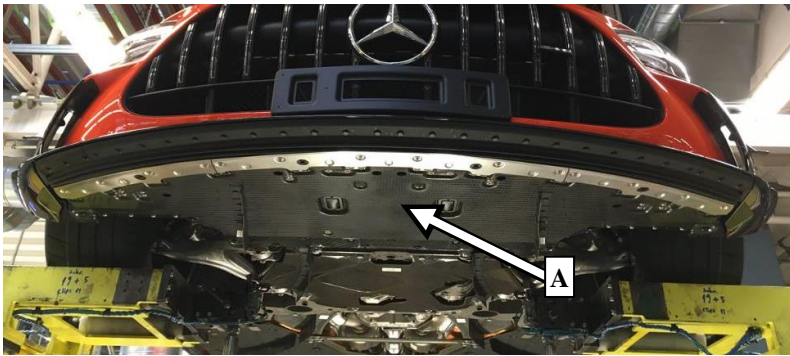

Figure 1
1. Remove lower front diffuser (A, figure 1).